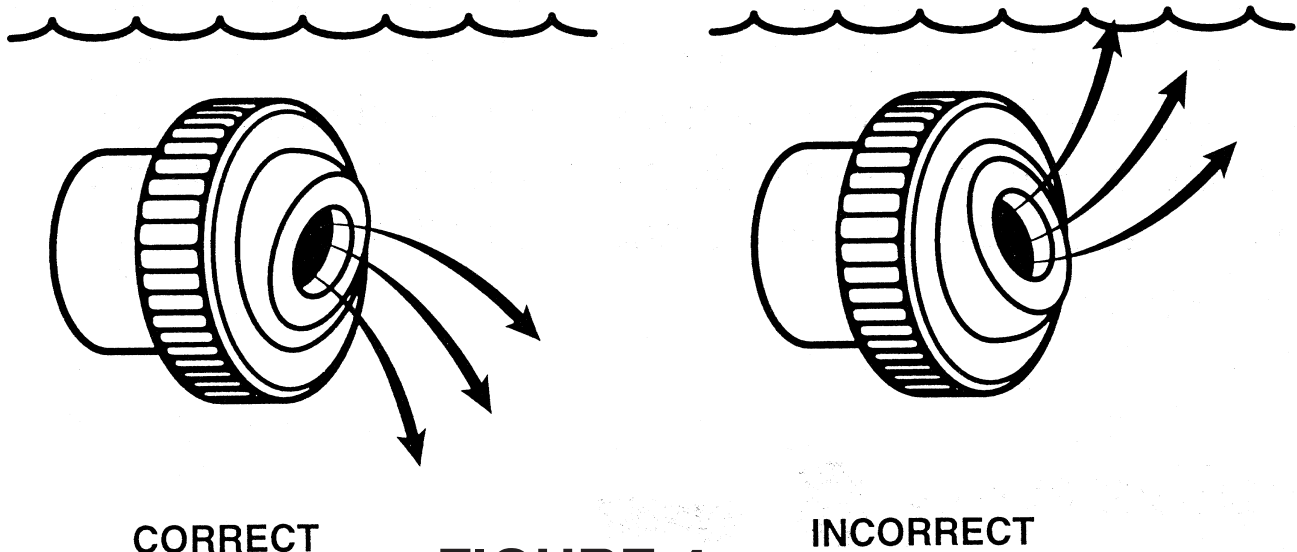

FIGURE 4
•The **POOLGUARD ALARM** should not be placed too close to a pool water return line. If your return line has an eyeball fitting, this must be pointing down, see FIGURE 4.
The POOLGUARD unit should not be placed too close to a return line from the filter area. Water turbulence may be too strong and falsely set the alarm off. If you have more than 2 return lines please call customer service at 1-800-242-7163. It is very important in pools to adjust all the eyeball fittings on your return lines so they will not interfere with your pool alarm. It is not necessary to point your eyeball up for your pool to circulate properly. If the water is swirling on top of the pool this makes the pool to turbulent for your alarm to work properly. Point the eyeball down and your pool will still circulate properly and allow your alarm to function properly. **If you point the eyeball fitting up, your alarm may not function properly.** (See Figure 4)